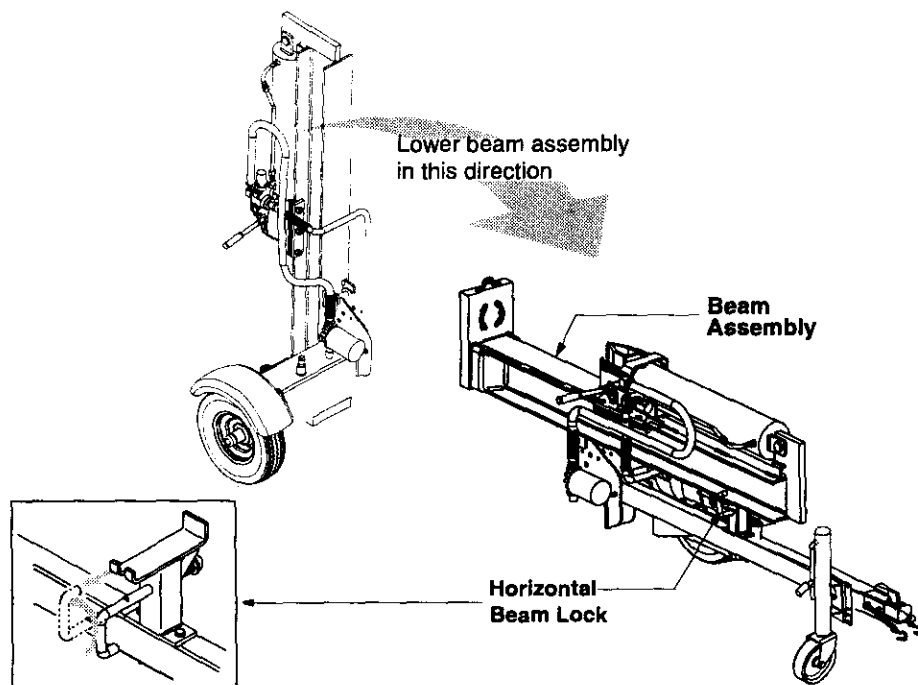

Figure 5
- Lower the beam assembly to its horizontal position. Make certain the beam is locked securely with the horizontal beam lock. See Figure 5.
pulling out on the horizontal beam lock and pivoting it upwards. Refer to Figure 5 for location of beam locks.